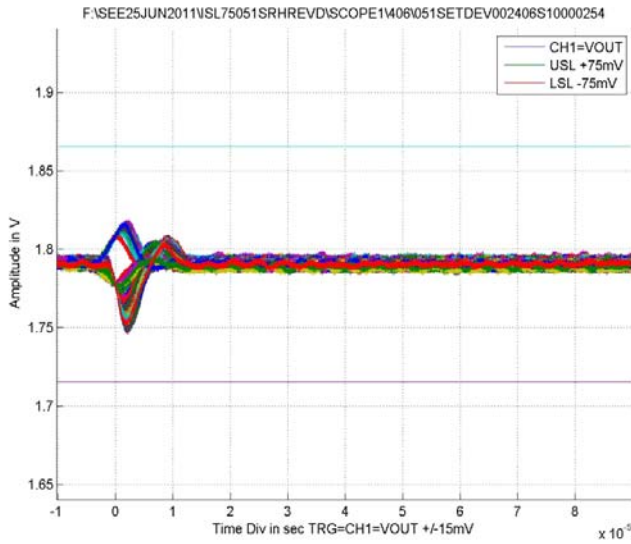

FIGURE 19. TYPICAL CAPTURE AT $V_{IN} = 2.2V$, RUN 406
- 10. The waveforms signature observed in Figures 19 through 26 is caused by the handoff between main and redundant references during an SET event. This does not affect normal operation of the device.